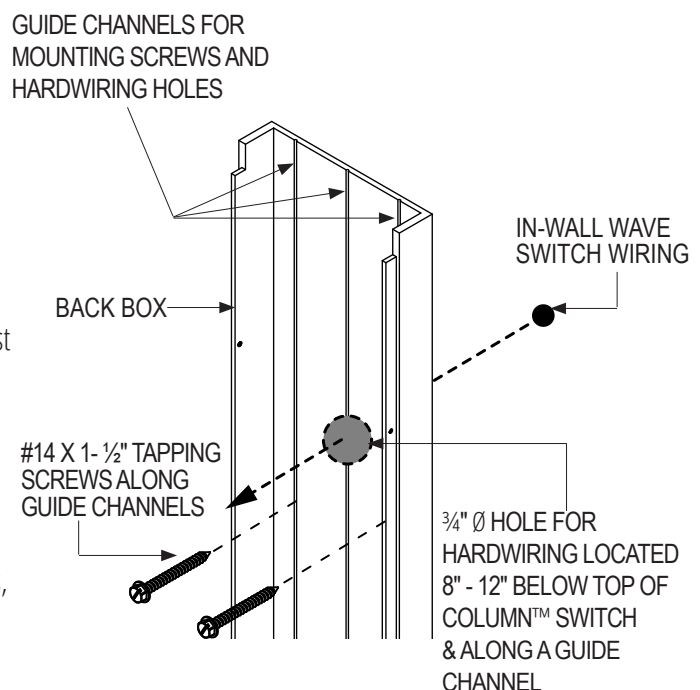

Figure 9.2 Guide Channels
6. Drill the mounting screw holes on the Back Box using drill bit 17/64" for either #14 tapping screws or 1/4"-20 machine screws. (Figure 9.2 and 9.3)
8. Drill the 3/4" Ø hole on the Back Box for hardwiring connection. (Figure 9.2 and 9.3)